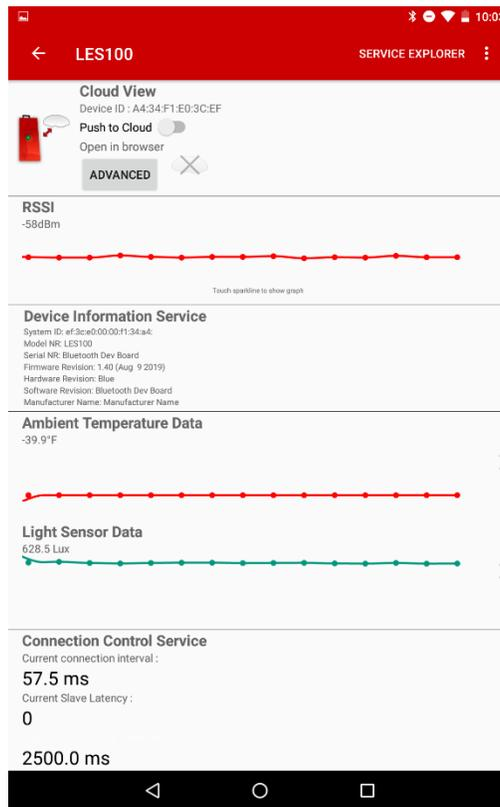

Figure 7, DEV-BLE-TI Data Monitor Device Screen
6. Once connected, observe light level, battery level, and temperature displays (Figure 7).
After successfully connecting to a PFDEV-TI device, the device home page will be displayed. All of the PFDEV-TI Bluetooth profiles and services will be displayed as separate rows on the page (Figure 7). Each Profile or Service performs a different function such as displaying collected sensor data or adjusting Bluetooth connection parameter.